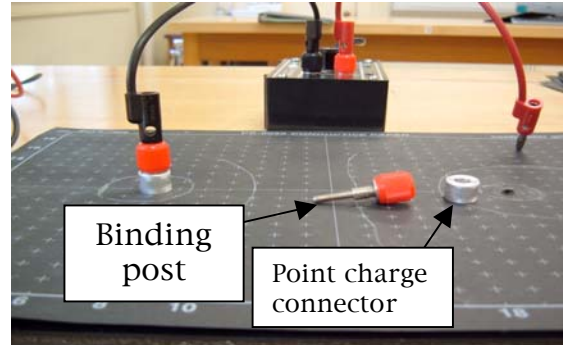

Figure 17-2 Point charge equipment
1. Attach the conductive sheet to the rubber covered board using two (screw-type) binding posts and two point charge connectors. See Figure 17-2